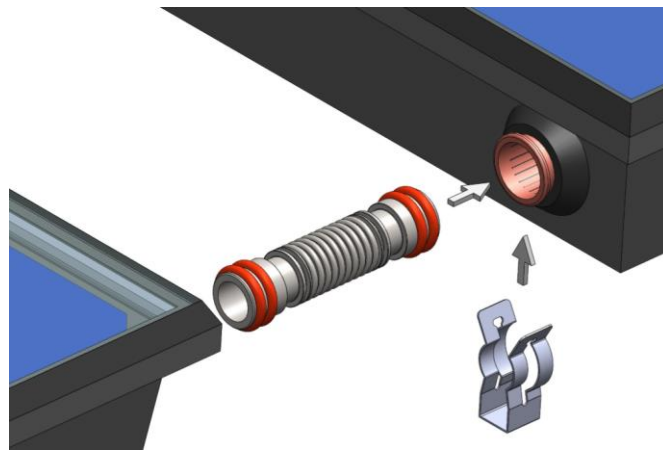

Fig. 10. Detail of expansion compensator between collectors
- Connection between collectors by means of a flexible joint (expansion compensator) with O-rings and fastening clamps, supplied by Abora. The connection is made as shown in **Figure 10**.